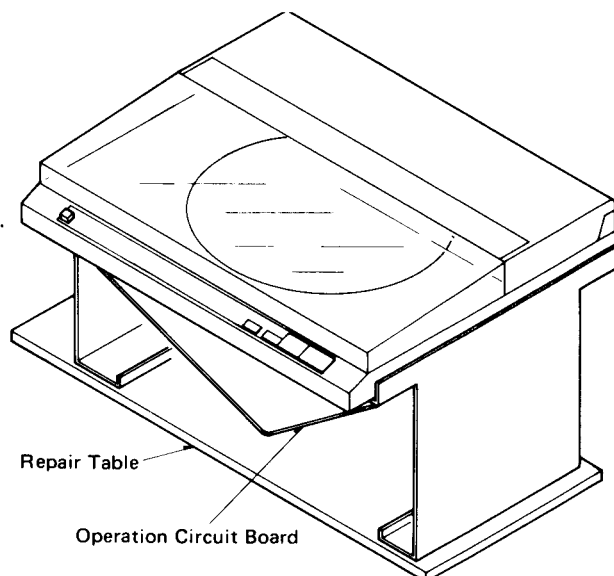

Fig. 8
1. How to use the repair table (Fig. 8)
- ① Remove the bottom board.
- ② Remove the operation circuit board and connect the P.C.B. ground terminal to the chassis (Stator frame.)
- ③ Put the unit on the repair table.
- ④ Fit the turntable platter and put on the turntable mat.
- ⑤ Put on the record and check the circuits from under the unit.